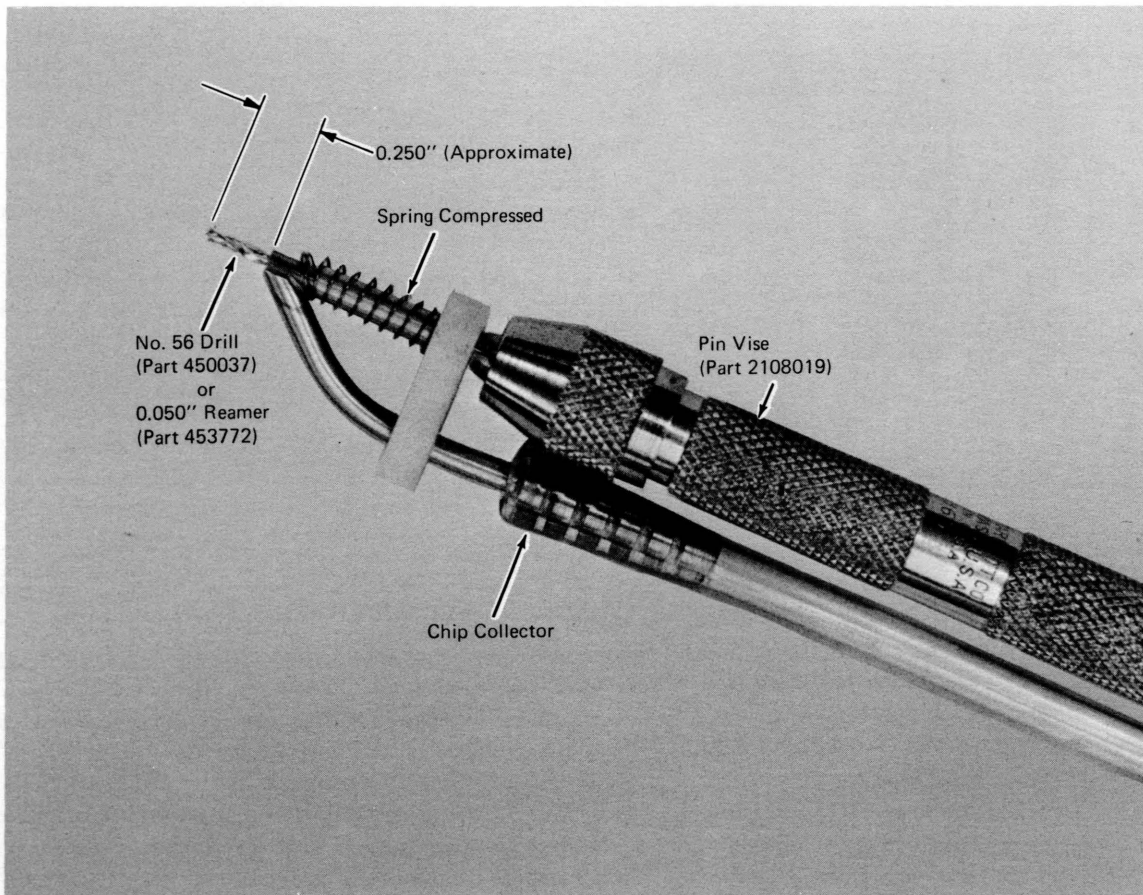

Figure 2-37. Chip Collector with No. 56 Drill or 0.050 inch Reamer
10. Insert the drill into the spring-loaded tubing of the probe side chip collector (part 452546). Hold the vacuum tube in one hand, and press the spring by pushing on the pin vise with the other hand until approximately 0.250 inch of the drill is exposed (Figure 2-37).
16. Insert the reamer into the spring-loaded tubing of the probe side chip collector (part 452546). Hold the vacuum tube in one hand, and press the spring by pushing on the pin vise with the other hand until approximately 0.250 inch of the reamer is exposed (Figure 2-37).